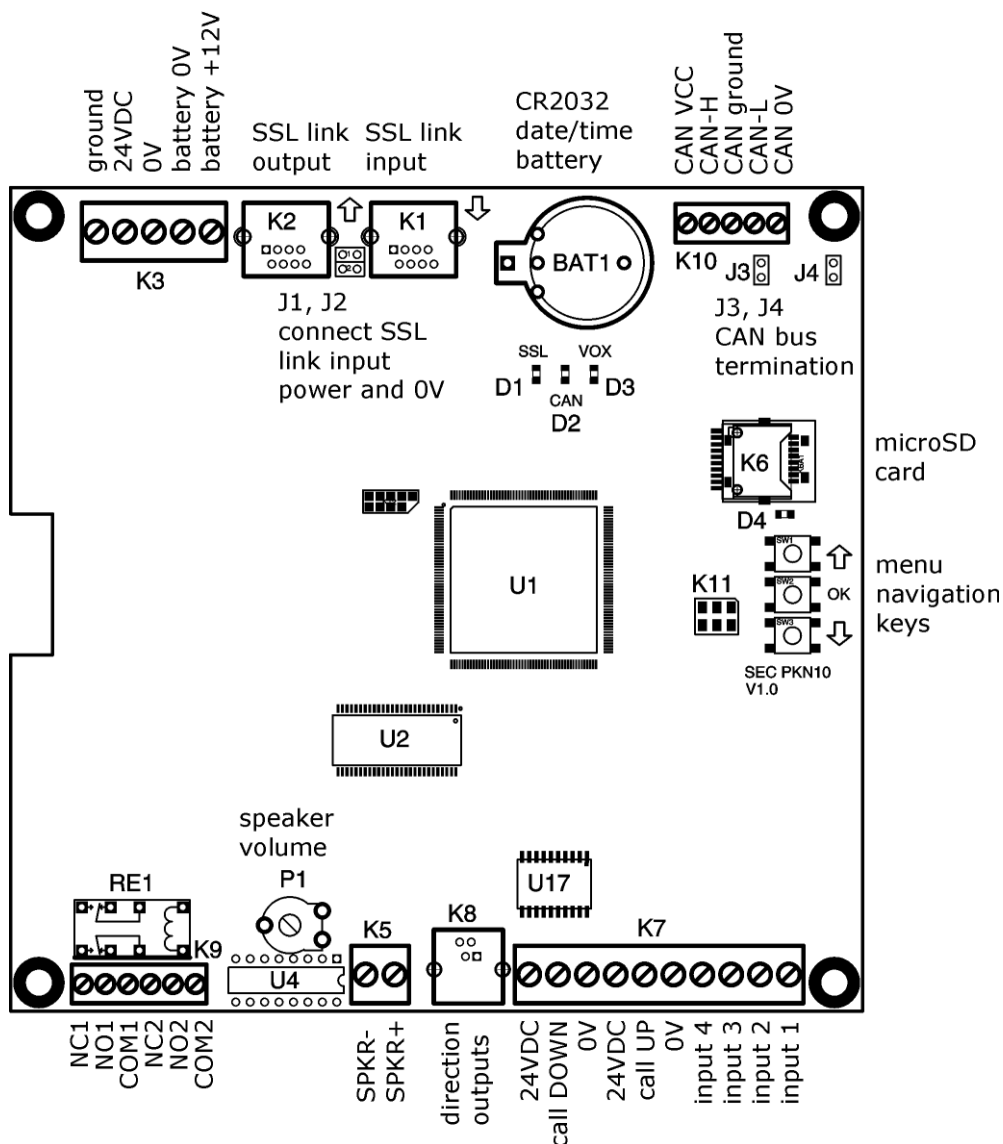

Figure 2: PKN10, rear view with connections
- **K7:** (10-way 5,08 mm terminal block): inputs and outputs, see figure 2 and the description below
Terminal 1 is in Figure 2 on the left side.
Pin 1 is in Figure 2 on the left side.